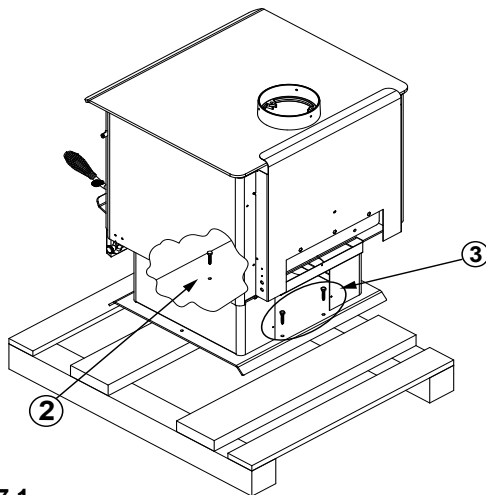

Figure 7.1
2. Using 7/16 inch socket or wrench remove one bolt located inside front part of appliance (**Figure 7.1**).
3. Moving to the back of the appliance and using 7/16 inch socket or wrench remove two bolts (**Figure 7.1**).